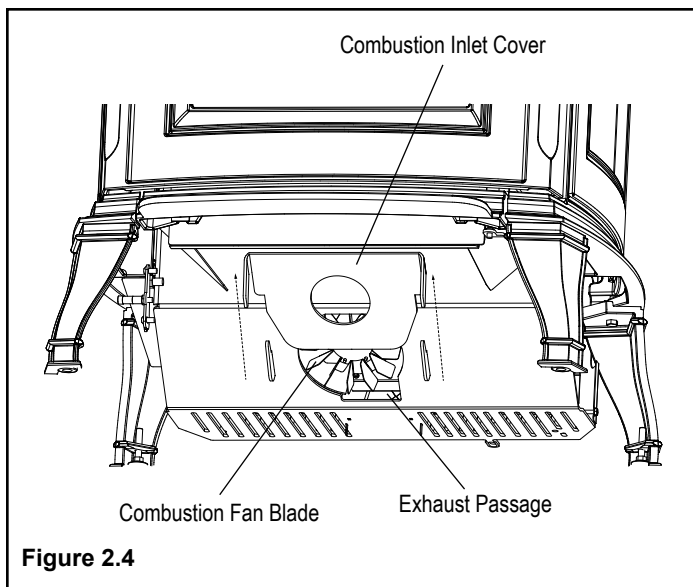

Figure 2.4
The combustion inlet cover is located behind the ash pan must be removed to properly clean the combustion fan blade. Figure 2.4.
- Remove the combustion inlet cover by pulling up on cover. This allows access to the combustion fan blade and exhaust path. Figure 2.4.